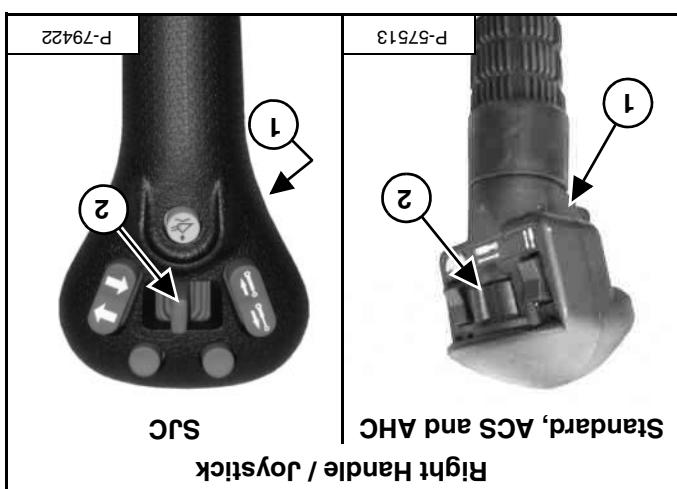

Figure 52
To rotate the broom clockwise, push the paddle switch (Item 2) to the left and press switch (Item 1) while continuing to hold the paddle switch. Lower the cutting edge to the surface and move the loader backward. The attachment cutting edge will scrape the surface while the broom sweeps the debris into the bucket. Press the switch (Item 1) [Figure 52] a second time to stop broom rotation.
Press the switch (item 1) [Figure 52] to engage the auxiliary hydraulics to rotate the broom anticlockwise. Move the loader forward and the broom will sweep debris into the bucket.
Press the switch (item 1) [Figure 52] a second time to stop broom rotation.